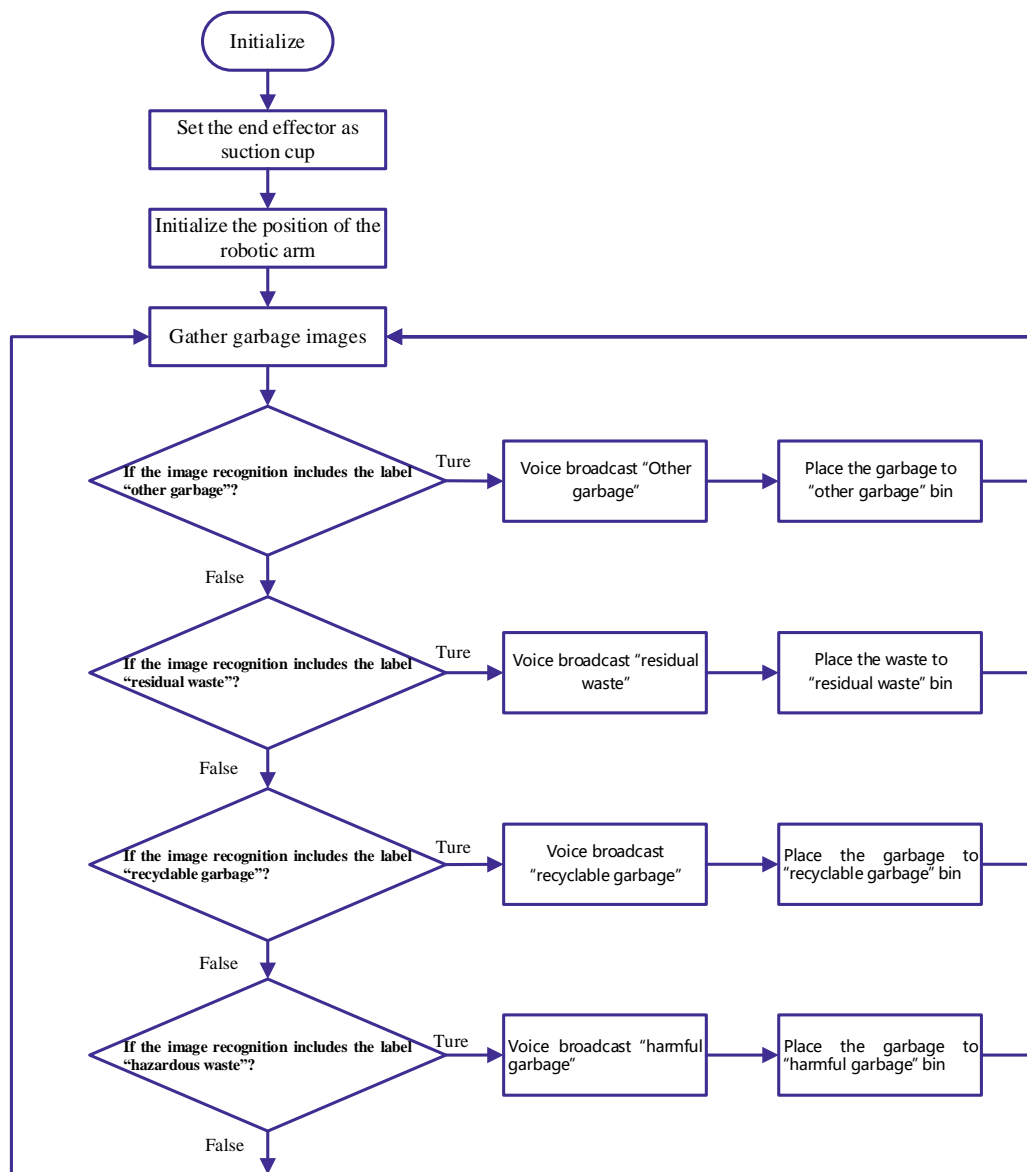

Figure 3.14 Flowchart
Step 2: Analyze the implementation steps of adding voice playback and voice recognition functions, and draw a flowchart, as shown in Figure 3.14.